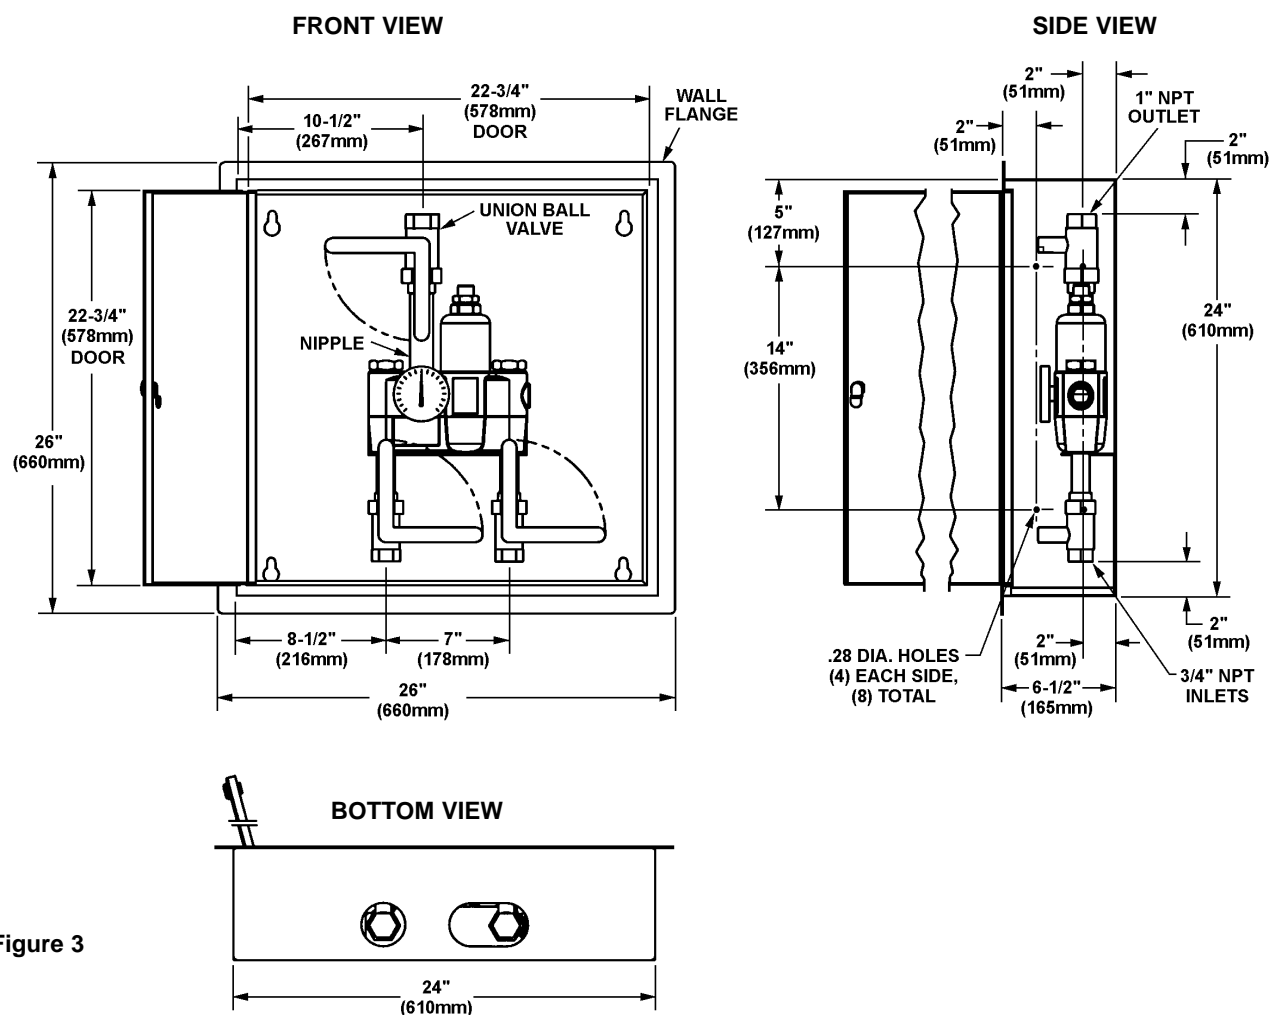

Figure 3
1. Rough in a 24-1/2" W x 24-1/2" H hole in the wall for the cabinet (see Figure 3).
2. Measure and mark the cabinet mounting hole locations at the dimensions shown in Figure 3. Install four 1/4" wall anchors, if required (supplied by installer).